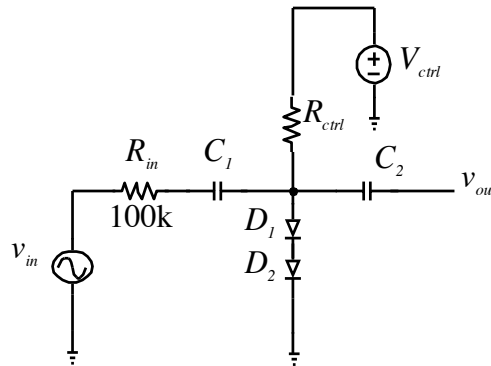

Figure 2.6: Variable attenuator
PE1 Perform a transient (time domain) simulation of the variable attenuator in Fig. 2.6 using values from step E5 in the experiment section.
The model of a diode as a resistor for small signals can be exploited to implement a voltage controlled variable attenuator as shown in Figure 2.6. At frequencies well above DC, the
capacitors in Figure 2.6 can be considered as short circuits. Thus, the amplitude of v_{in} is attenuated by a voltage divider consisting of R_{in} and the small-signal resistance of the two diodes D_1 and D_2 , r_{d1} and r_{d2} :
- E5.** Build the variable attenuator of Fig. 2.6 using silicon diodes, $R_{in} = R_{ctrl} = 100$ k Ω , $C_1 = 100$ nF, $C_2 = 100$ nF. Set V_{ctrl} initially to 1.0 V, and gradually increase it to 2.5 V, while applying a 100 kHz, 0.5 Vp-p sine wave for v_{in} . What effect does increasing V_{ctrl} have on the output signal? With V_{ctrl} set to 2.5 V, slowly increase the amplitude of the input sine wave and watch the shape of the output waveform. Measure the maximum peak-to-peak amplitude of the output waveform before the signal becomes significantly distorted?